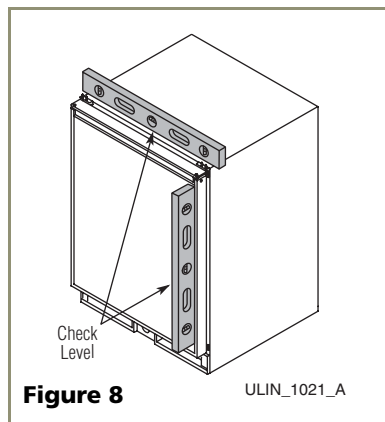

Figure 8
1. Use a level to check the levelness of the unit from front to back and from side to side. Level should be placed along top edge and side edge as shown (see **Figure 8**).